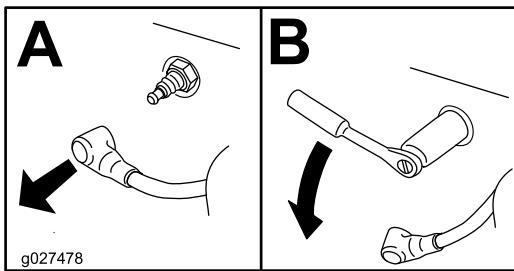

Figure 70
4. Locate and remove the spark plug(s) as shown in Figure 70.